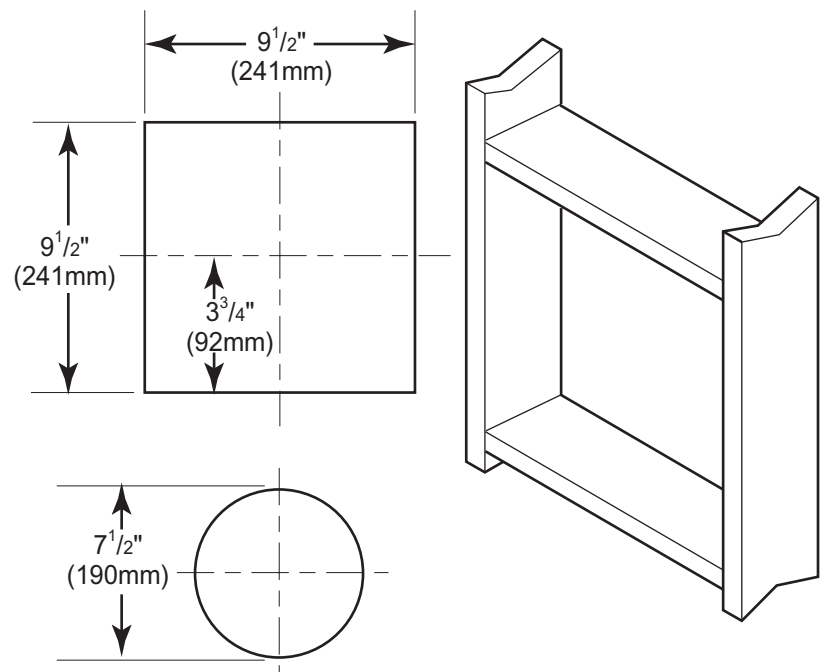

Figure 27 - Exterior Wall Framing Dimensions for 4"x6⁵/₈"
2. The center of the hole should line up with the center line of the horizontal rigid vent pipe end. Allow ¹/₄" minimum rise per foot. See Figure 27.